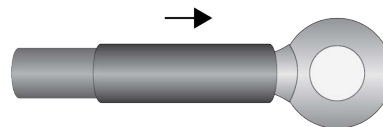

Figure 44. Sliding the Heat-Shrink Tube Over the Ring Terminal Lug
- Slide the heat-shrink tube over the shaft of the ring terminal lug. Refer to Figure 44.